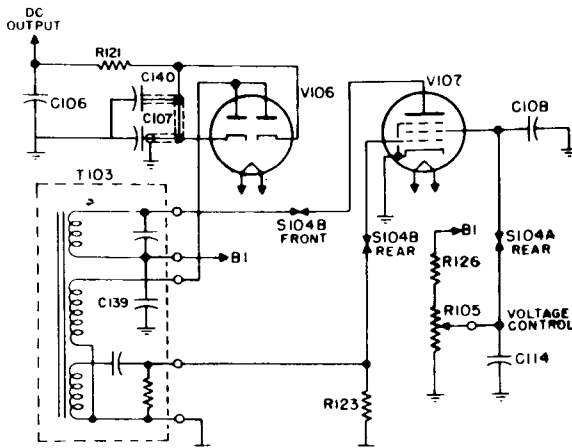

Figure 4-7. D-C Power Supply, RF Type
b. In the ZM-11/U the battery function is by a power supply of the RF type. Figure 4-7 shows the circuit when the OSCILLATOR switch is in the D. C. VOLTS position. V107 cooperates with transformer assembly T103 to oscillate at about 300 kilocycles. It has a secondary winding of very high Q and inductance/capacitance ratio which develops a relatively high RF voltage. This is rectified by tube V106 and smoothed by a resistance-capacitance combination, R121, C107, C105 and C106. Plate supply to the oscillator tube is at B1. The amplitude of the RF oscillation, and hence the d-c output, is controlled by the VOLTAGE CONTROL, R105, which controls the screen supply to the oscillating tube. With the FUNCTION switch in the C-CHG (charge) position, this d-c is connected into the bridge circuit in a manner analogous to the battery connection of Figure 4-5.